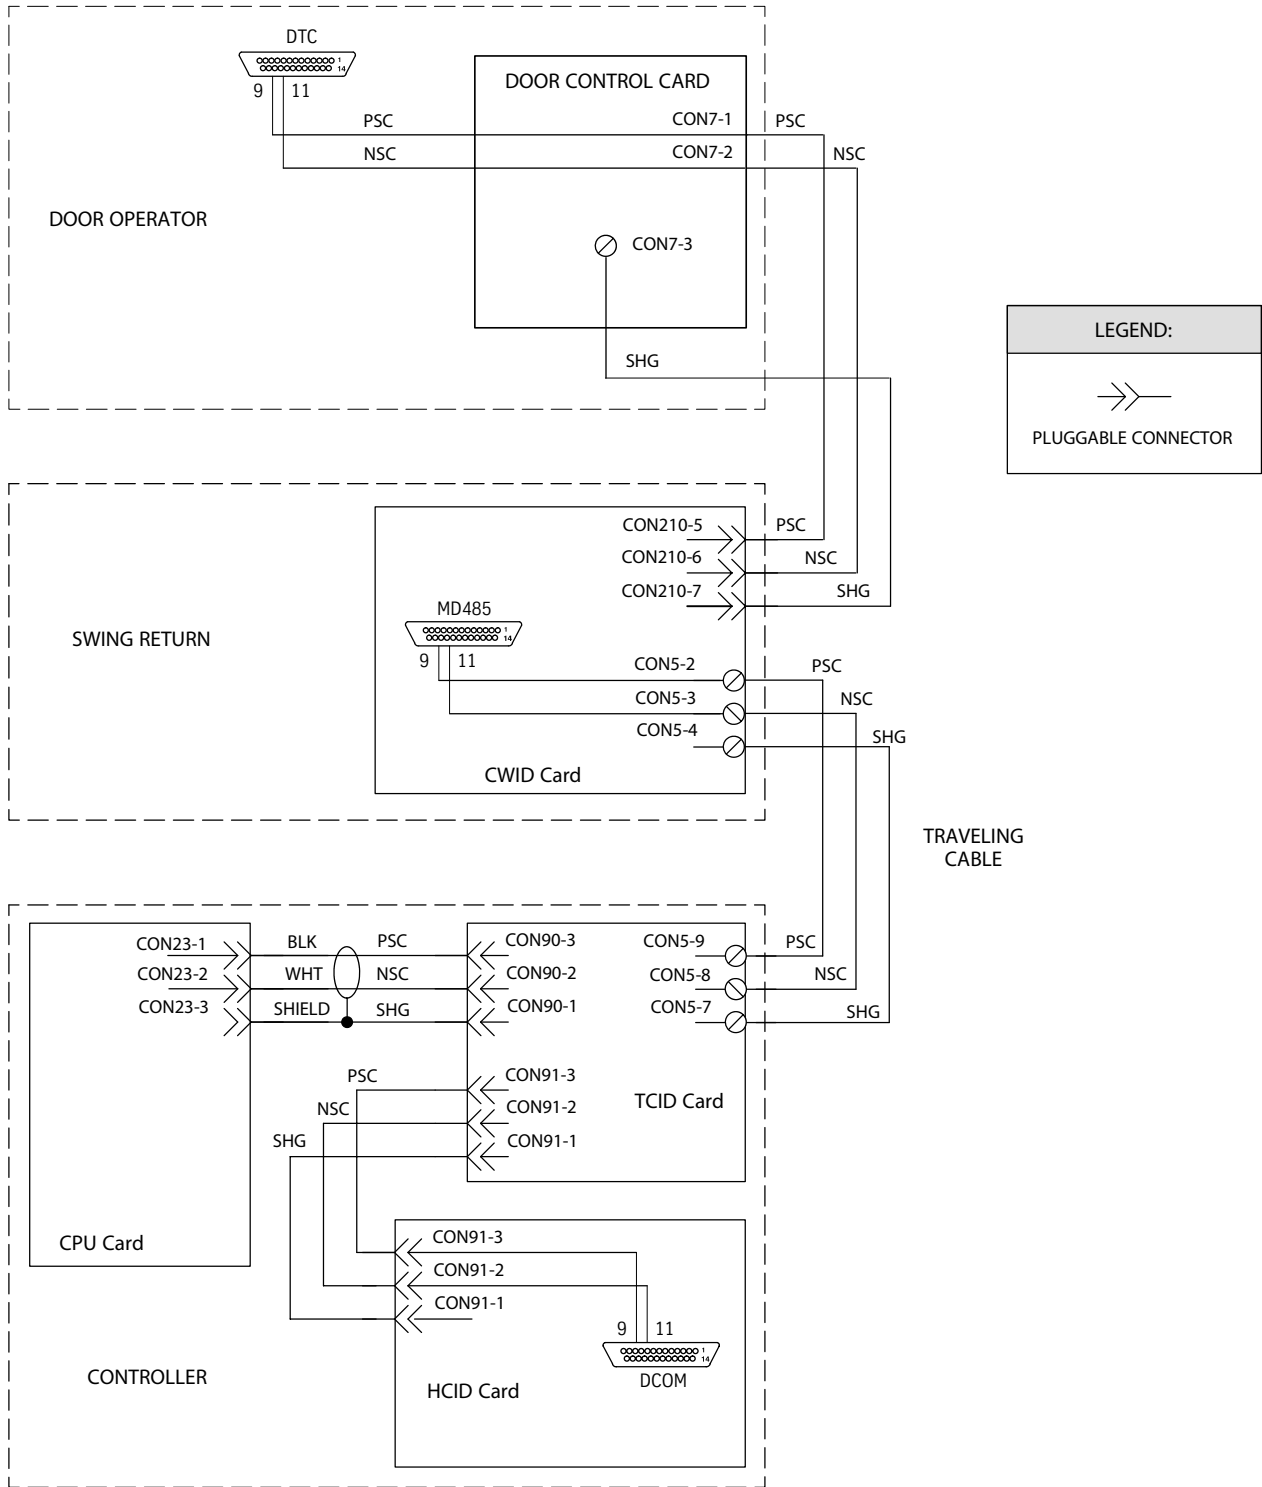

Figure 34 - Door Operator Communications Wiring
- a. Find the wiring problem. See Figure 34 on page 123.